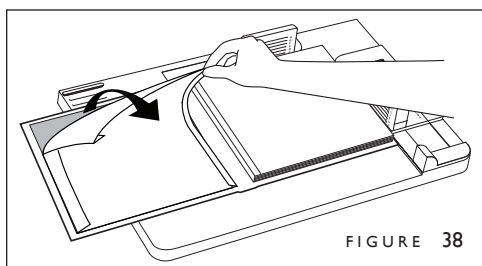
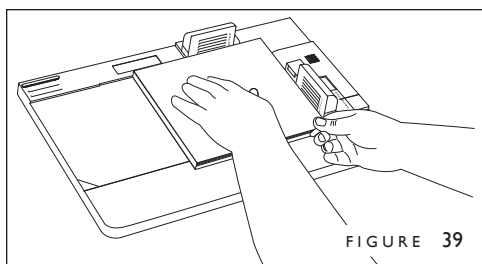

FIGURE 38
FIGURE 39
5. Remove the remaining release papers from the left side, (Figure 38), and bring the left panel of the Fastback Hardcover over the book block and align, with the top and right edges of the cover abutting the purple stops (Figure 39). Press straight down onto the text block and smooth the cover to the spine. Remove the book from Guide, Open and rub the endleaves to ensure that they are securely fastened.